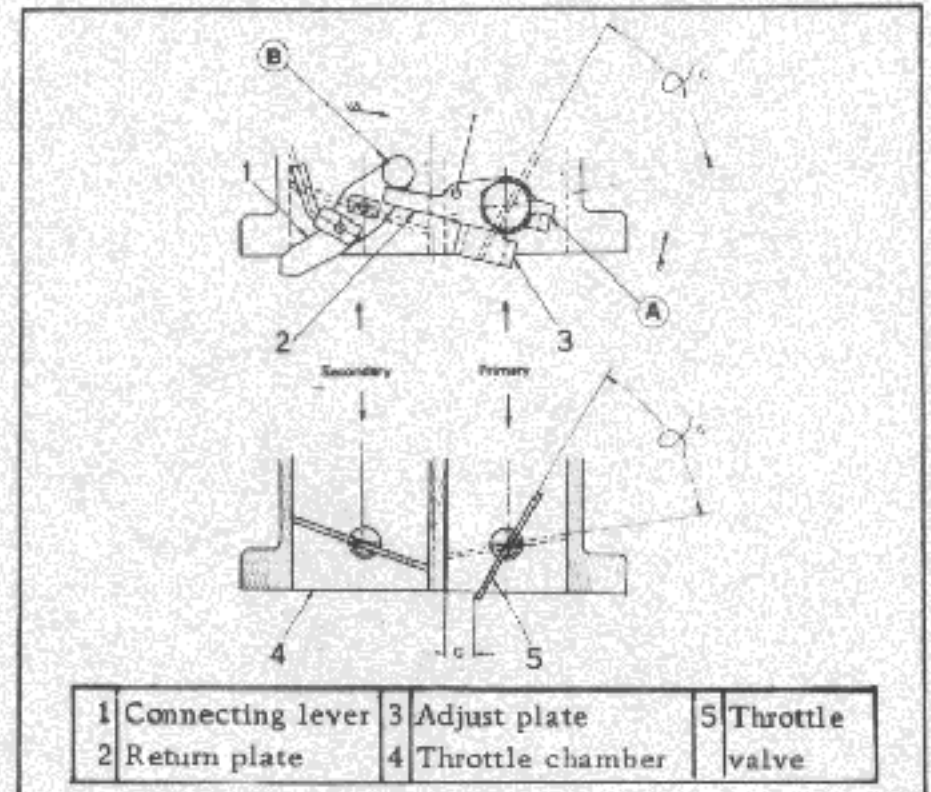

Fig. EF-37 Model DAF328 & DAF328 carburetors
Fig. EF-37 & 38 show the primary throttle valve opened * α° . When the adjust plate fixed to the primary throttle valve is open * α° , it comes to contact with the connecting lever at (A). When the throttle valve is further opened, the point (B), where the connecting lever is in contact with the stopper, is detached, permitting the secondary system to start actuating.